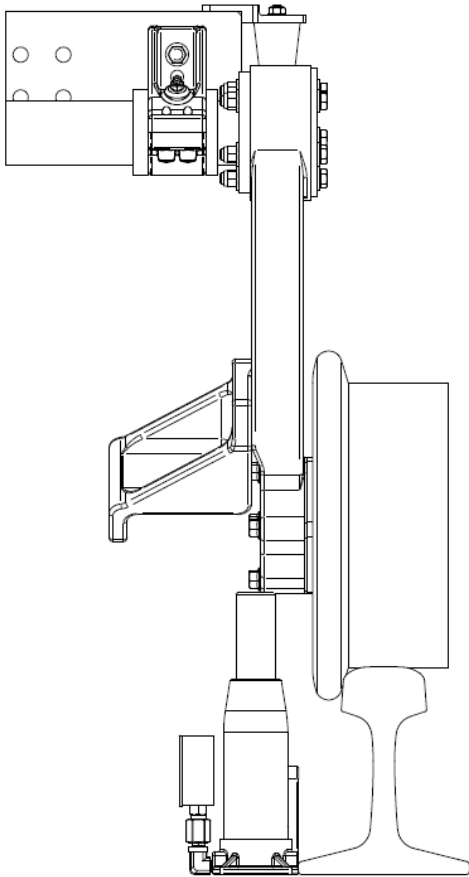

Figure 4-5
2. Place the wheel weighing jack (part no. CO-105) under the guide wheel arm directly below the wheel spindle, see Figure 4-5. Jack the guide wheel up until the guide wheel just clears the top of the rail. Note the gauge reading. The gauge reading indicates the pounds of load on the guide wheel.